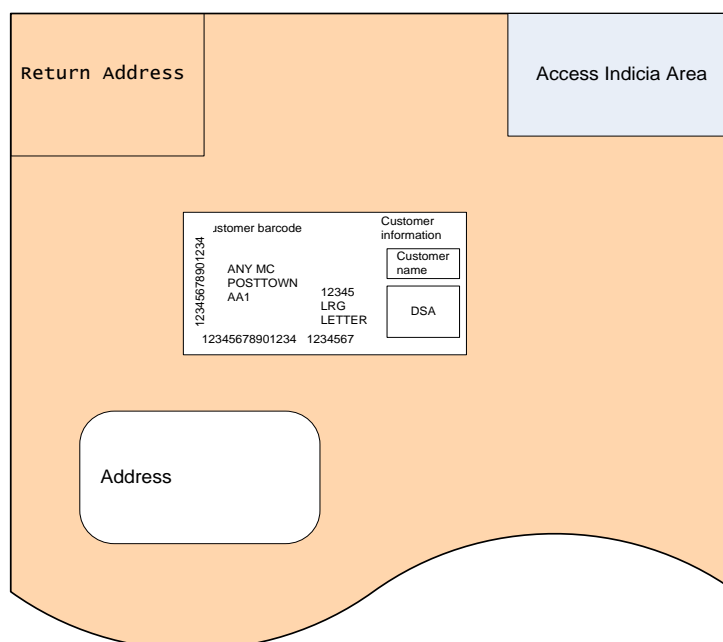

Figure 18: Return address positioning
- The label must be positioned above and to the left of the Delivery Address block. Where the return address is on the front of the Mailing Item, the label must be below the return address block, as illustrated in Figure 18: